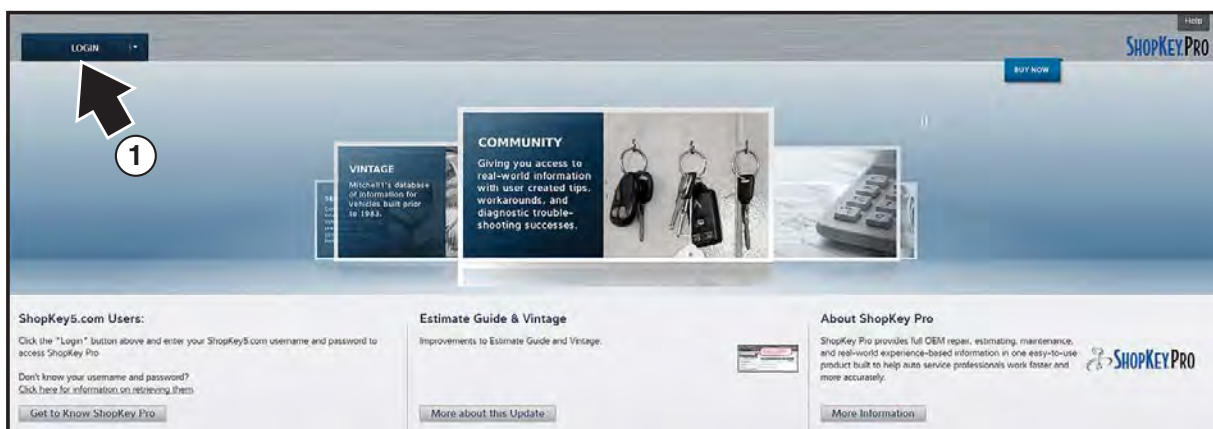

Figure 15-5
3. To create an account, follow the illustrated instructions in Figures 15-5 to 15-7.